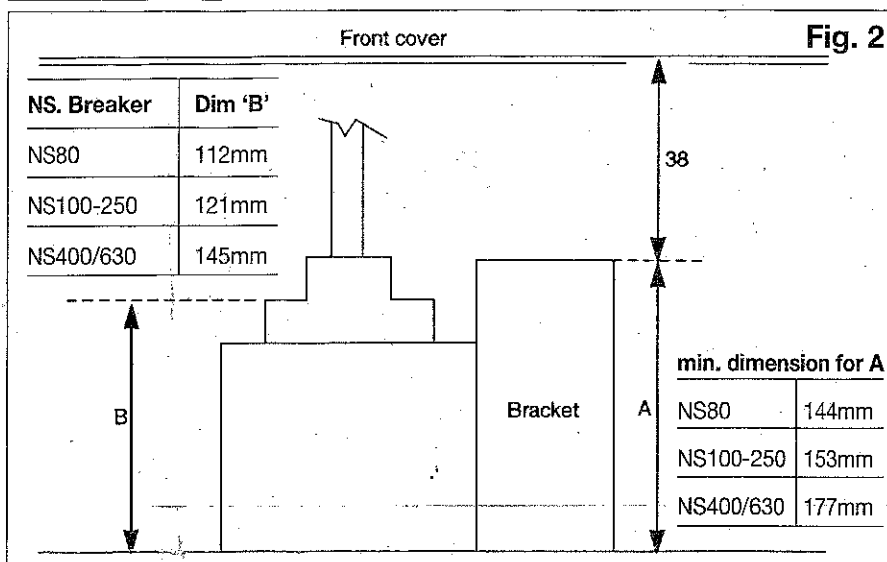
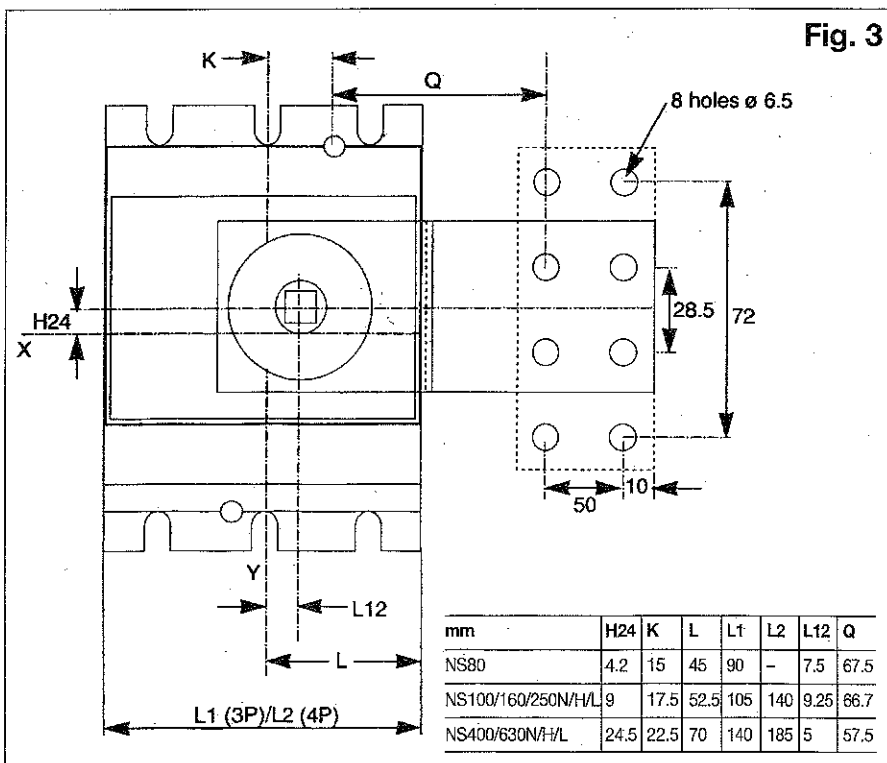

Fig. 2
Fig. 3
- iii) Fixing distances for the Castell lock arrangement may be found in Fig. 2 and Fig. 3.
5) Referring to Fig. 3, position and secure the bracket at the right hand side of the MCCB. The bracket and rotary handle shaft centres should align.